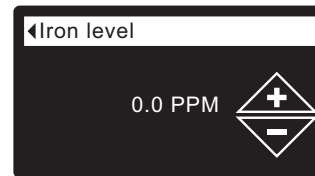

FIG. 57
5. Press the SELECT (O) button to display the Iron level screen (See Figure 57).